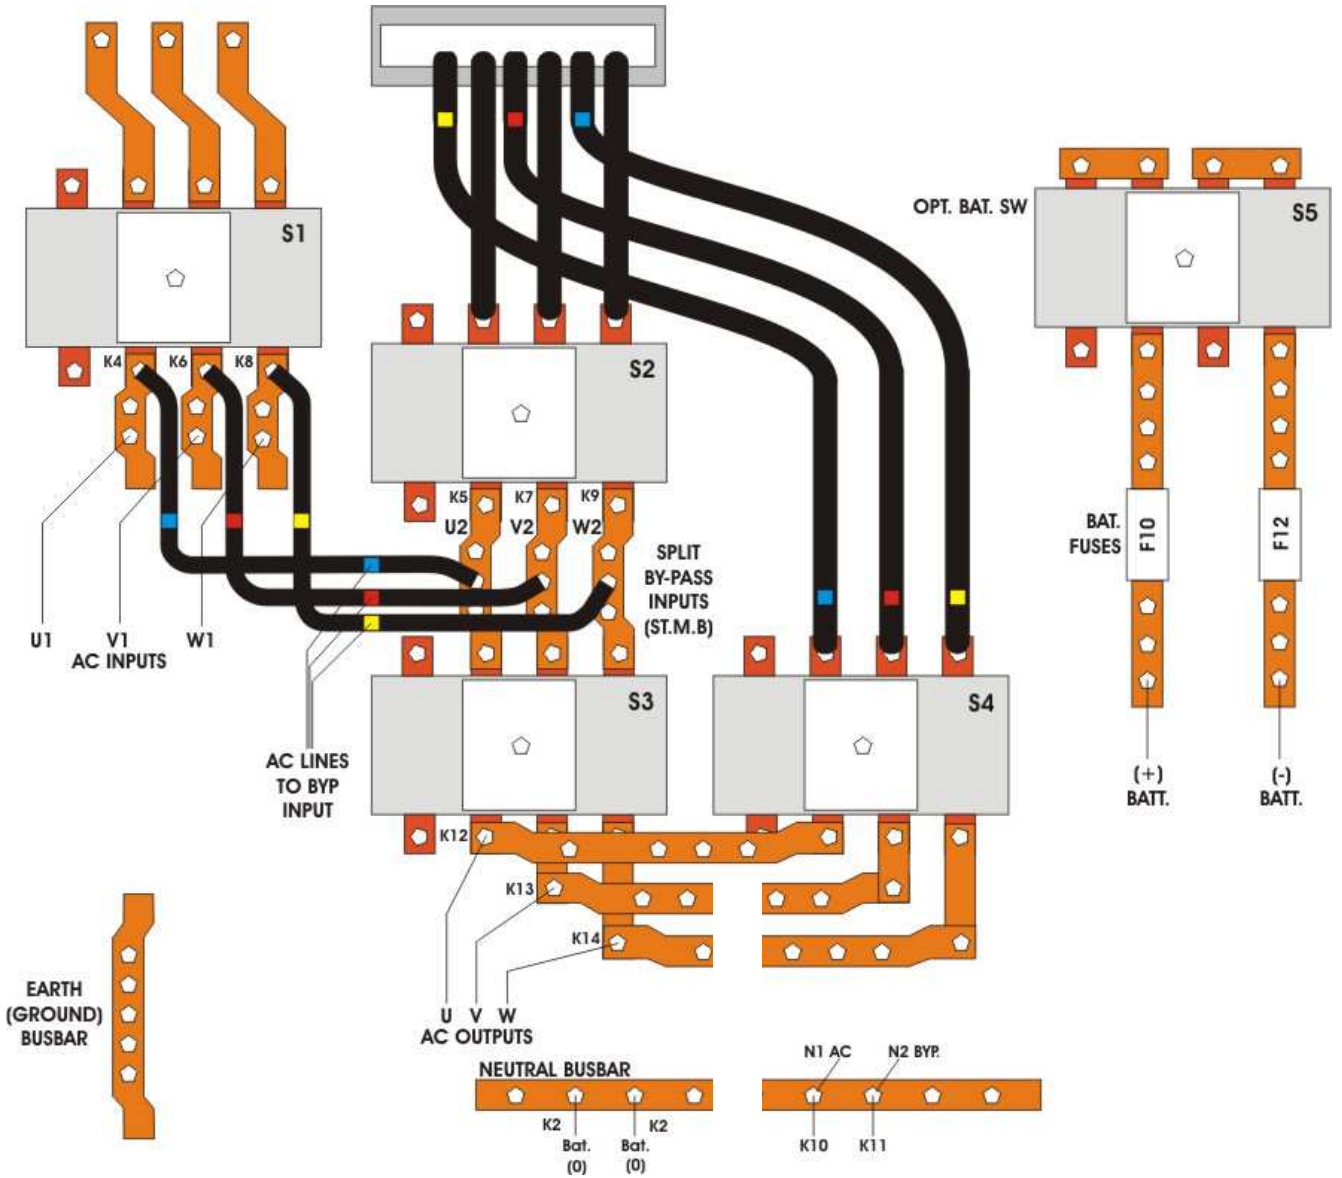

Figure 2.2.a 100-120-160-200 kVA Power Cable Connections (S5 and S2 are available)
2. Connect the 3 phase AC input coming from the mains distribution panel to the AC input terminals as shown on the label. (Figure 2.2)
- a) Remove the links from AC Inputs to Maintenance Bypass Inputs (I).
- b) Remove the AC Links to Static Bypass Inputs (II).
- c) Connect Maintenance Bypass and Static Bypass Inputs to each other as shown by the dashed lines in Figure 2.2.b.